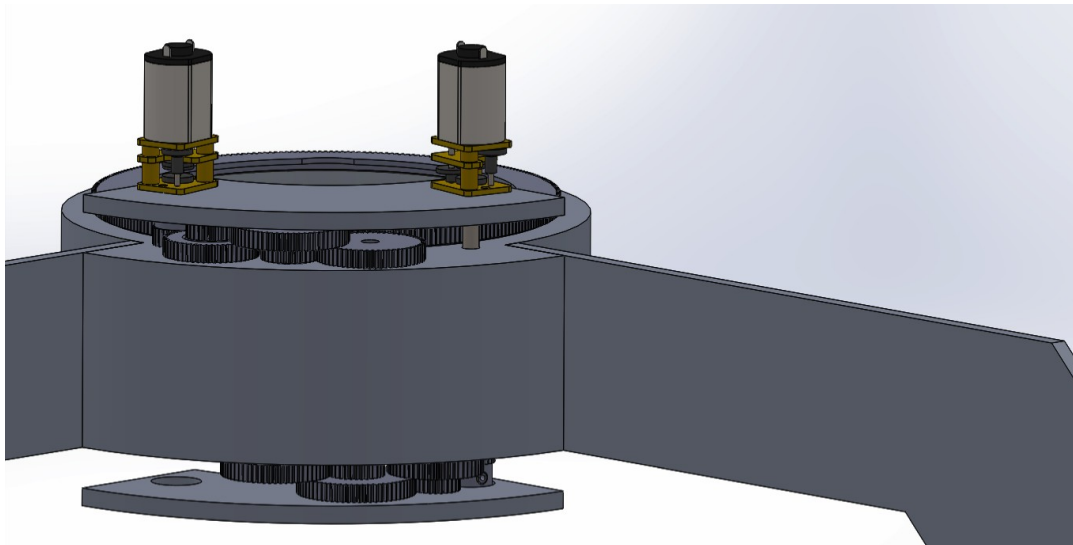
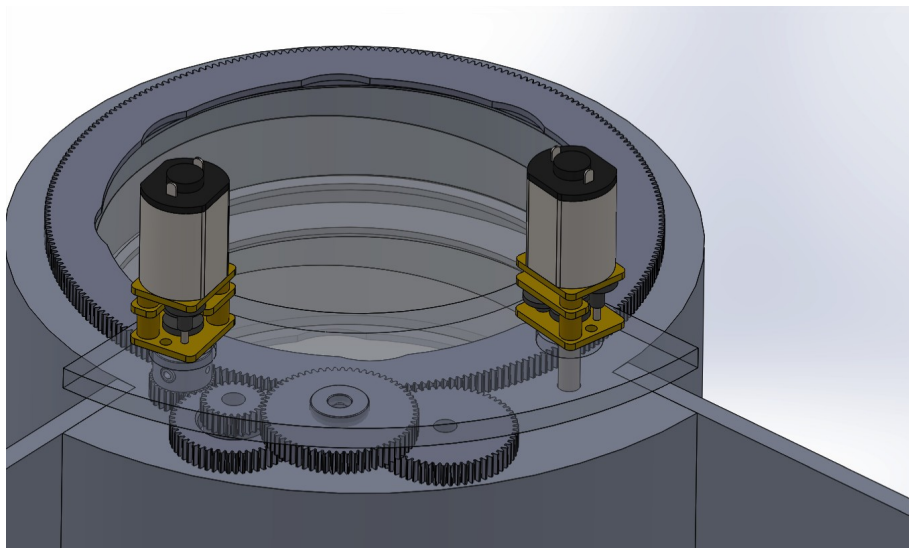

Figure 4 Motors and encoder gear train
Figure 5 Absolute encoder gear train. 10:1 total. The encoder is on the gear on the right.
1. Encode the lens with an absolute encoder that has a 1:1 relationship with the rotation of the lens. So one revolution of a prism produces one revolution of the encoder. This allows the use of a magnetic absolute encoder that has analog outputs, sin and cos. This requires a gear train as the encoder needs to be placed on the axis of the shaft to be encoded. This is shown in Figure 4 and Figure 5